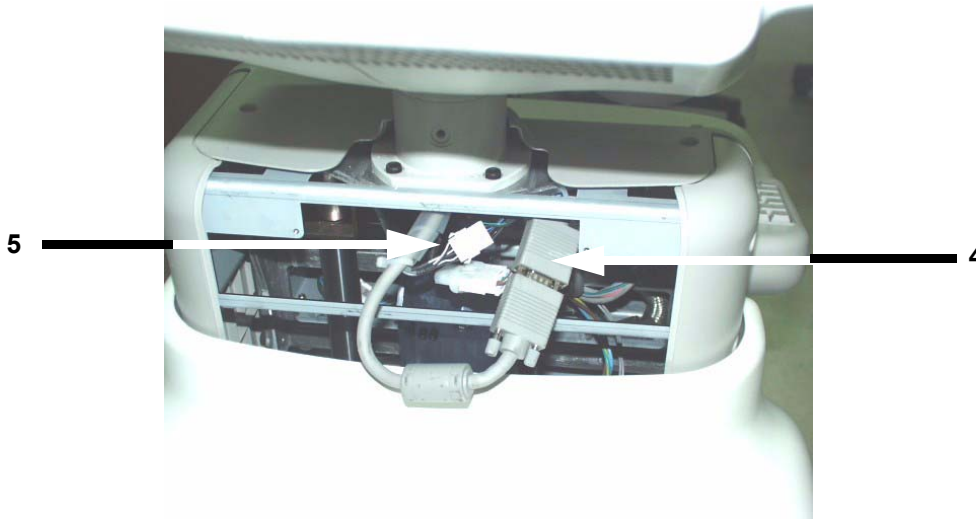

Figure 8-38 Disconnect two(2) Connectors (5-6)
5.) Disconnect two connectors on the other end (4-5). Refer to Figure 8-38 on page 8-5 .